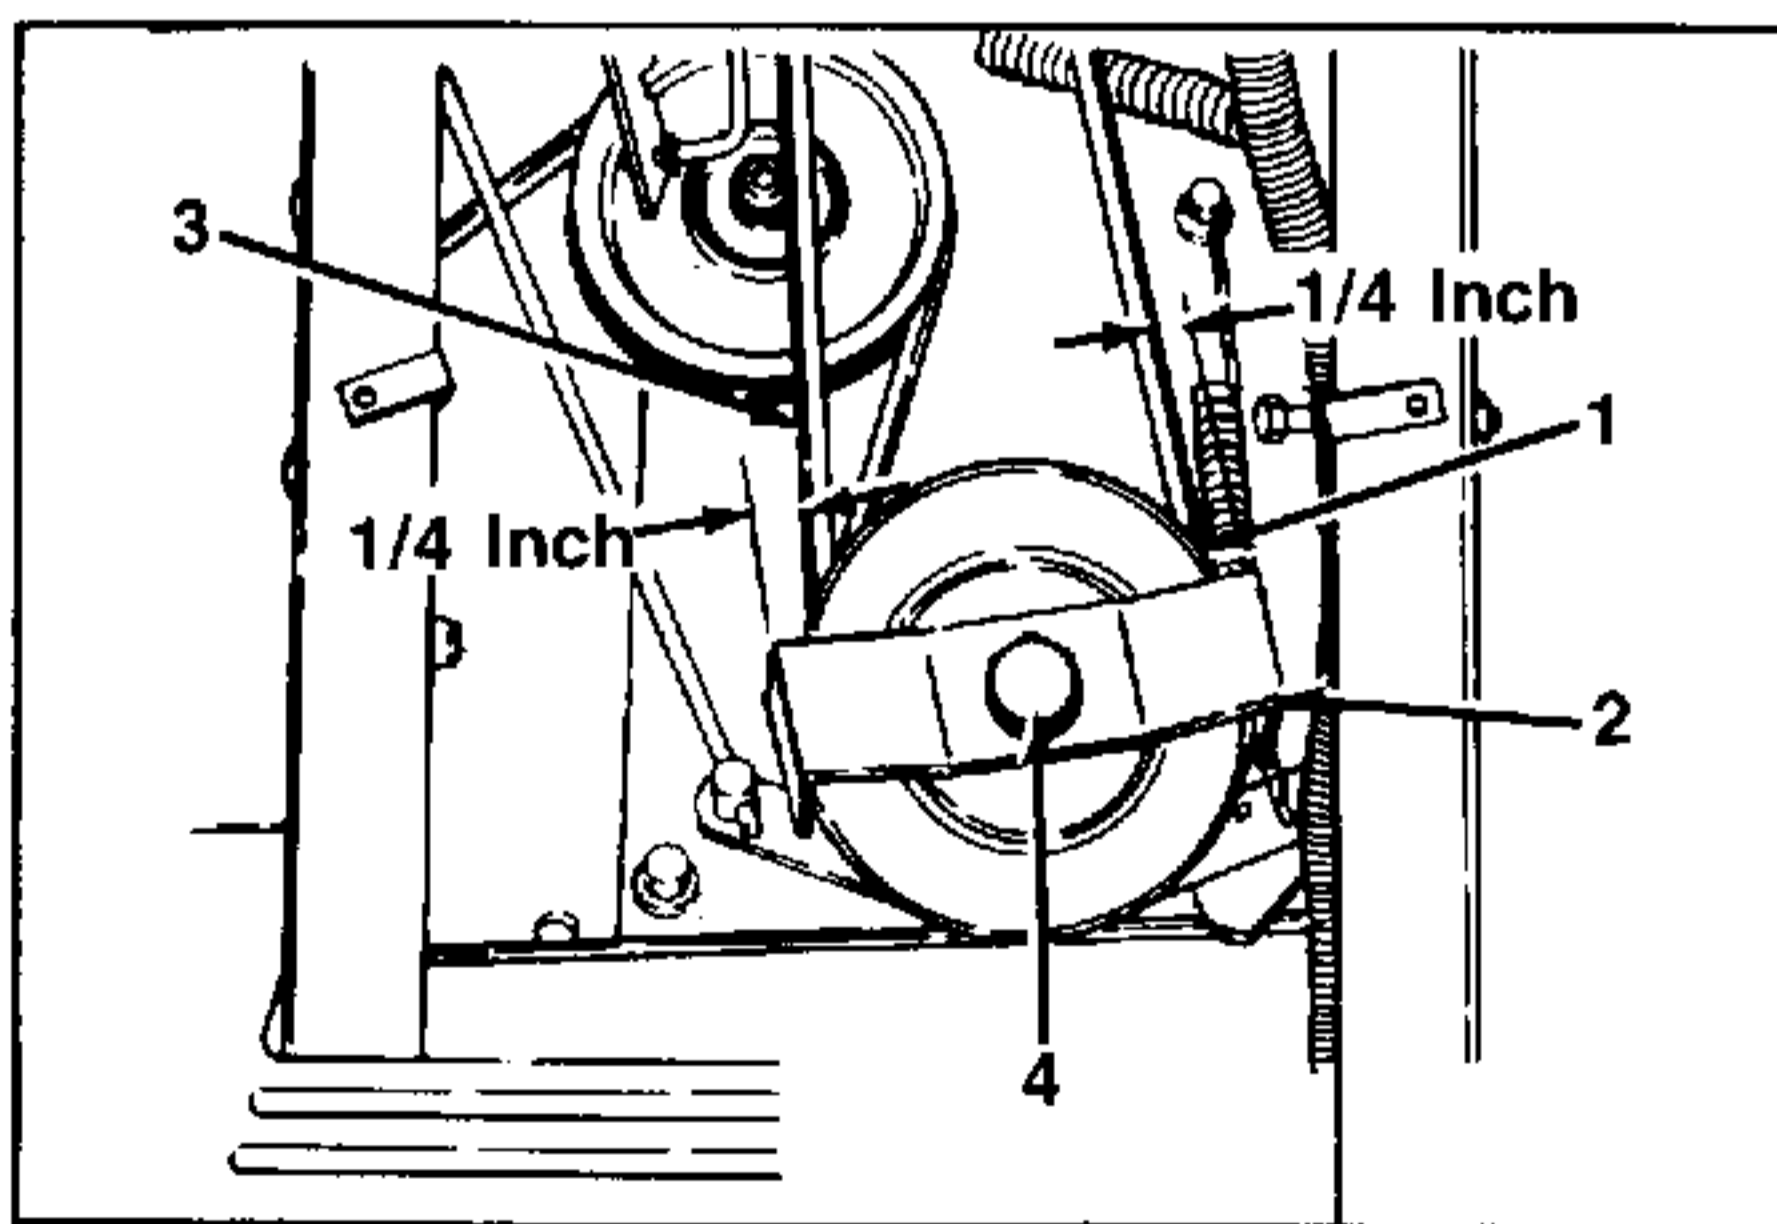

FIGURE 17.
6. While sitting on the tractor seat, look through the frame and locate the deck double drive pulley and belt guard. The double drive pulley belt guard should be positioned so that the PTO drive belt is the same distance (approximately 1/4 inch) from each edge of the belt guard. Refer to figure 17.